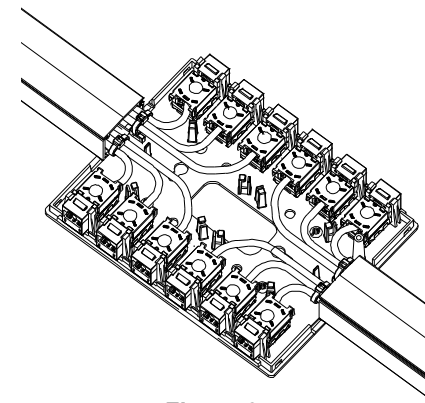

Figure 6
6. Terminate individual jacks and modules utilizing the supplied instructions sheets. Insert terminated jacks or Snap-Fit modules into base unit by securing jack between the posts under the latch. See Figure 6.